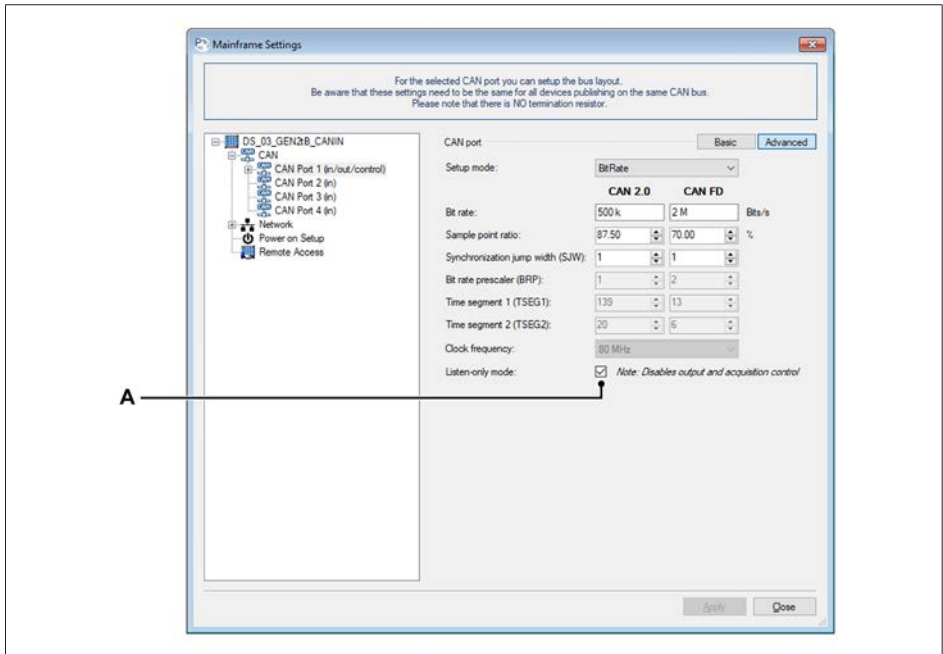

Fig. 12.13   General CAN Settings
- The used Bit rate (see Fig. 12.13) needs to be checked.